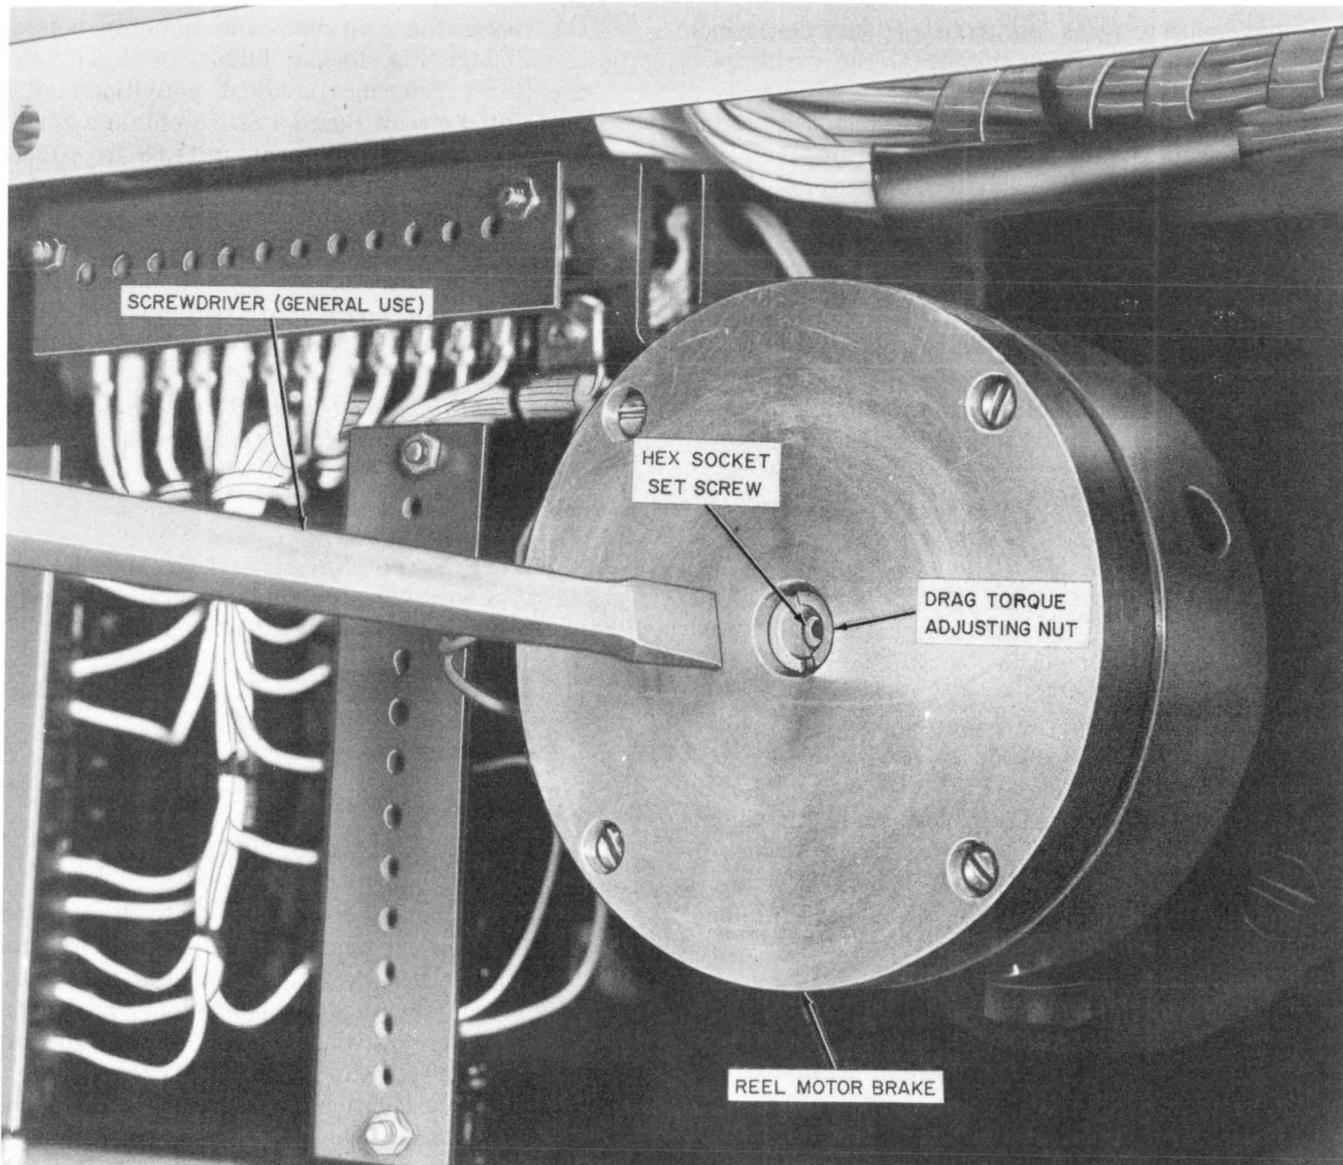

Fig. 8—Reel Motor Brake Showing the Drag Torque Adjusting Nut
(1) Use appropriate Allen wrench to loosen the setscrew which locks drag torque adjusting nut (Fig. 8) located at the rear of reel motor brake. Use the 5-inch E screwdriver to rotate the drag torque adjusting nut to increase or decrease tension as required to meet the requirements of Table B.
(2) Tighten the locking setscrew and recheck the requirements. If brake tension requirements of Table B cannot be met, replace the reel brake lining as described in Section 034-368-801.